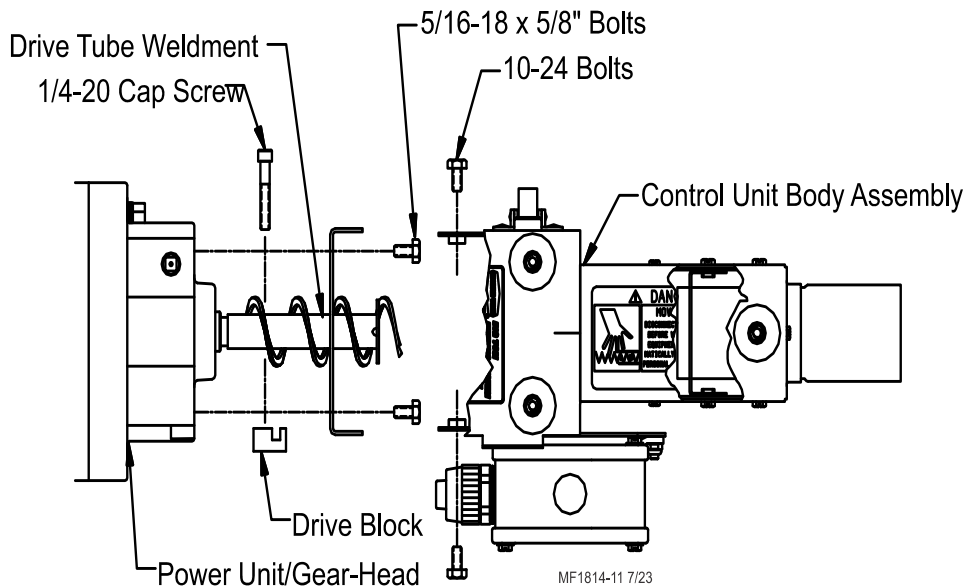

Figure 28. Control Unit Installation
1. Remove the four 5/16-18 x 5/8" bolts from the parts package and use them to bolt the Anchor Plate to the Power Unit. Install the Anchor Plate with the angled end pointing down, **see figure 28**.
2. Bolt the Control Unit Body Assembly to the Power Unit, using hardware supplied, **see figure 28**.
9. Mount the control unit on the end of the feeder line and secure with a tube clamp. See **Figure 28 (on page 23)**. The distance between the control unit pan and the last pan should be 5’ (1.5 m) or less.